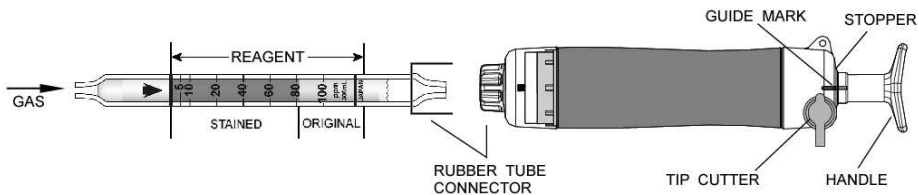

Fig.1
- ② Insert the detector tube into the aspirating pump securely as shown in Fig.1. (Arrow mark shall point to the pump.)
- ③ Align the guide marks on the shaft and stopper of the aspirating pump.
- ④ Pull the pump handle at a full stroke until it locks and wait for 1.5 minutes or until the completion of sampling is confirmed with the flow indicator of the pump (See descriptions about the flow indicator in the instruction manual of the pump).
- ⑤ Push back the handle without removing the detector tube from the rubber tube connector, so that air in the pump will be discharged perfectly. Then repeat the step ③~④ twice again.
- ⑥ On completion of sampling, read the scale at the maximum point of the stained layer.
- ① Temperature; Correct the tube reading by following temperature correction table.